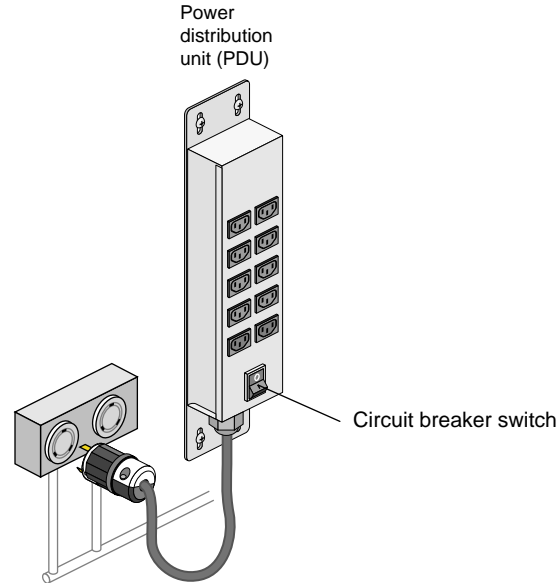

Figure 2-19 PDU Circuit Breaker Switch
2. Turn on the circuit breaker switch of the PDU as shown in Figure 2-19.